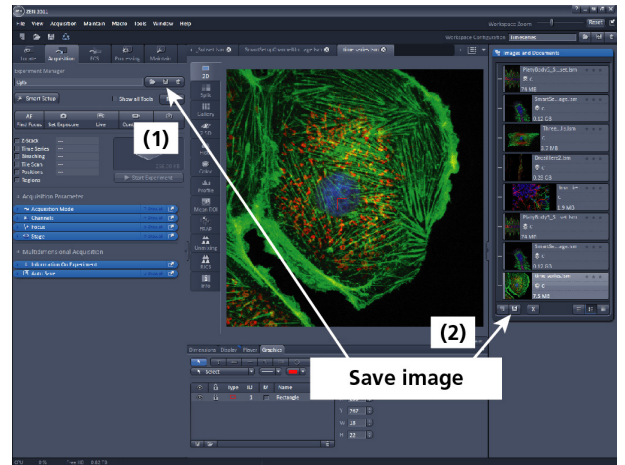

Fig. 26 Save Image buttons in ZEN
- To save your acquired or processed images, click on the **Save** or **Save As** button in **File** menu, or click the  button in the main toolbar (Fig. 26/1), or click on the  button at the bottom of the **File Handling Area** (Fig. 26/2).